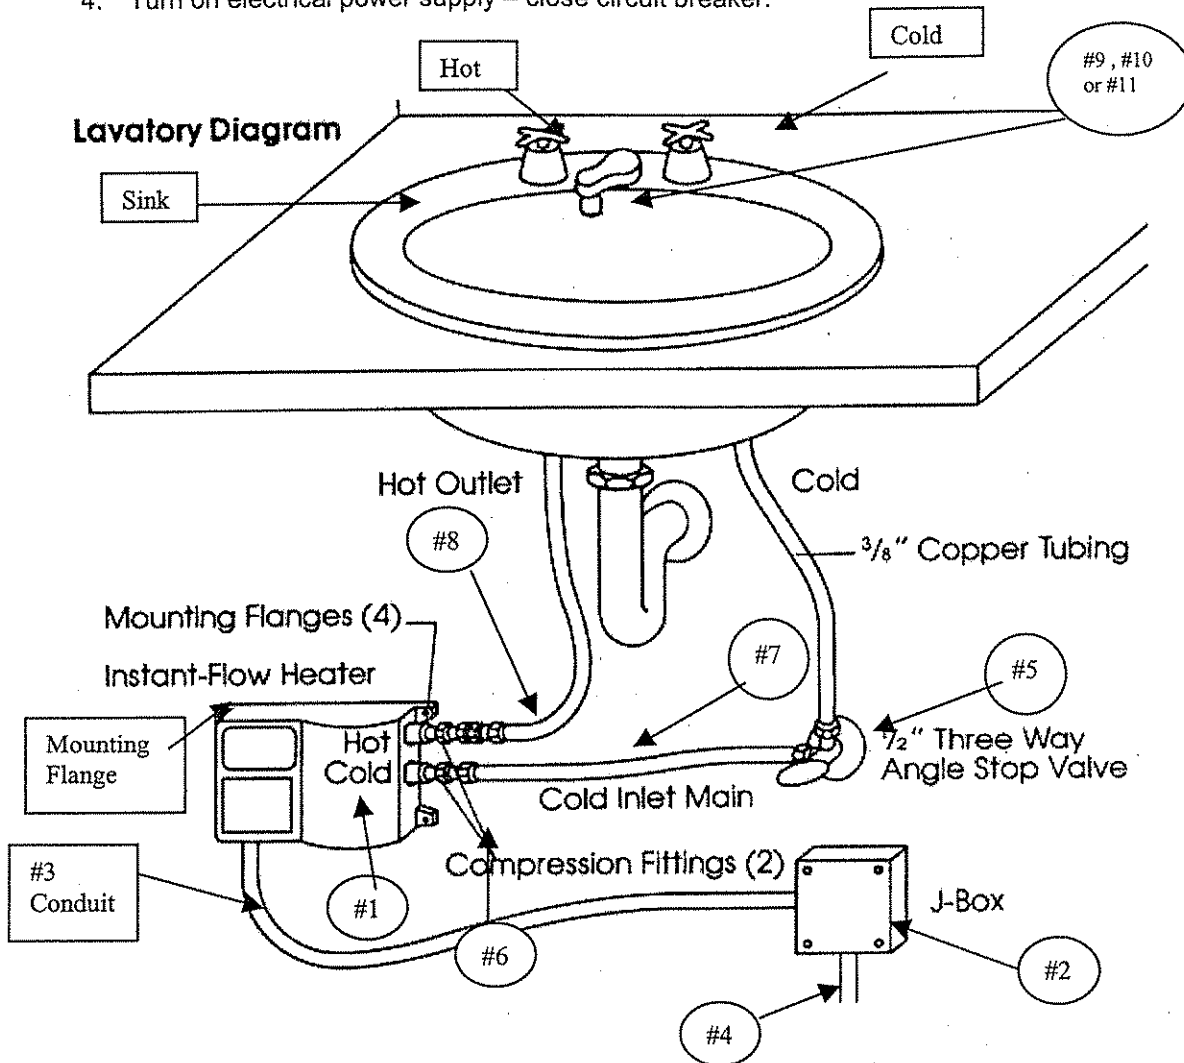

FIGURE 1 HEATER INSTALLATION
2. Mount unit horizontally against the wall so the silver label reads correctly (See Fig. 1). Mount with four screws through the flanges located on each corner using molly anchors or fasteners.
3. Connect plumbing. Use 1/2" tapered national pipe thread at cold water inlet and hot water outlet (See Fig. 1). Use compression fittings supplied for ease of installation. Do not apply heat to these fittings.